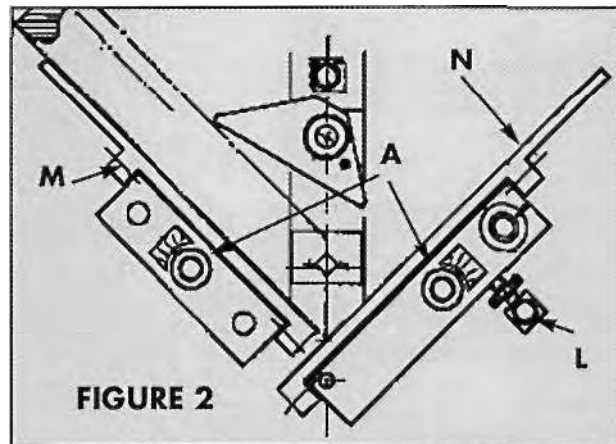

FIGURE 2
I - SETTING OF ASSEMBLY ANGLE (FIG 2 & 3) FOR A SQUARE FRAME
Place backs of the moulding, to the fences (M & N).. To flush up fences with mouldings, setting knob A may be adjusted + or - (FIGURE 2) to ensure the mitres meet properly.
- If the angle is open to outside (FIGURE 3A), screw down setting screw (reference L on FIGURE 2) until the mouldings meet exactly.
If the angle is open on the inside (FIG. 3B) unscrew the angle set screw (REF L, FIGURE 2) until the corners meet exactly.
Place one moulding against fence M and slide it as far as stop N (FIGURE 2)